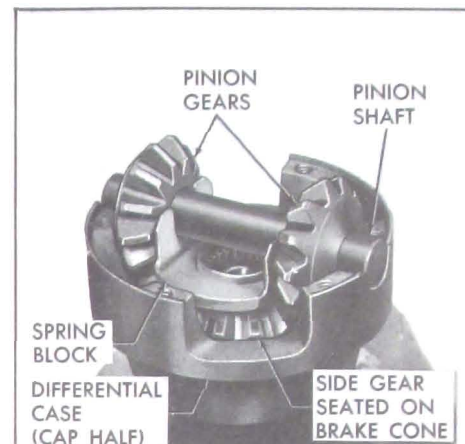

Fig. 6-40—Installing Parts into Cap Half of Differential Case
4. Place one spring block in position over gear face in alignment with pinion gear shaft grooves. Install thrust block, pinion shaft, pinion gears and thrust washers into cap half of differential case in such a manner that pinion shaft retaining dowel can be inserted through pinion gear shaft into differential case. This prevents the pinion shaft from sliding out and causing damage to the carrier assembly. See Figure 6-40.